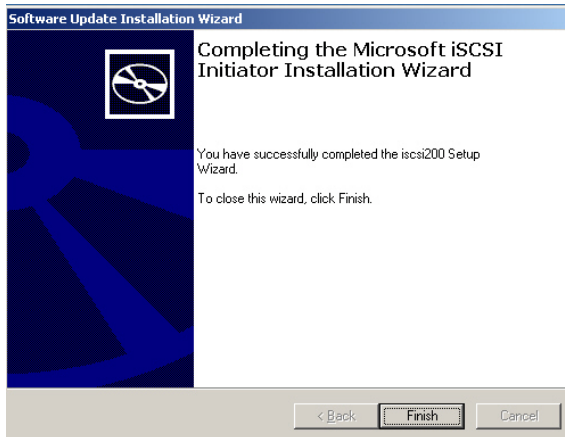

Figure C.4 Software Update Installation Wizard –Screen 4
5. The installation is completed. When the screen in Figure C.4, click the **Finish** button.